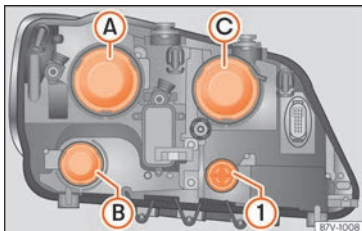

Fig. 62 In the engine compartment: coatings on the left headlight.
- Rotate the bulb holder  **Fig. 62 1** all the way to the left and pull it out backwards together with the bulb.